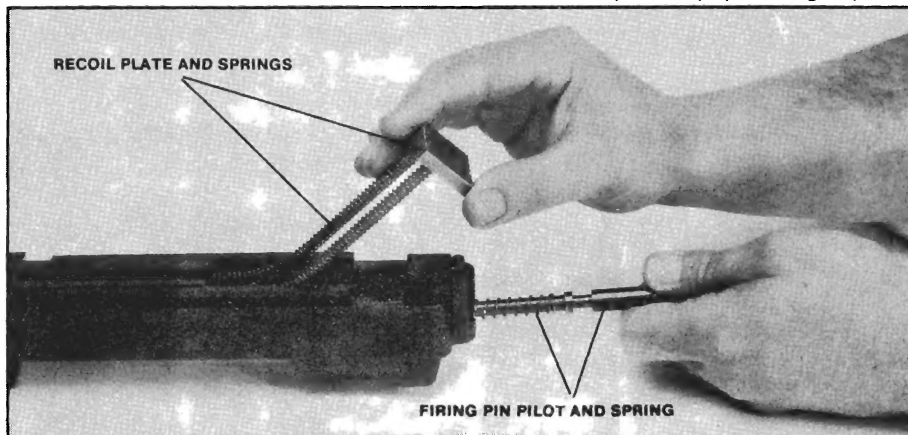

Fig. 3. Removing recoil plate and springs, firing pin pilot and spring.
4. With gun still upside down, the internal parts of receiver (27-41) can be removed by pulling up on the recoil plate and spring (27-48). The firing pin pilot (27-18) and spring (27-17) will come out of the hole in the rear of receiver (27-41). (see fig. 3)